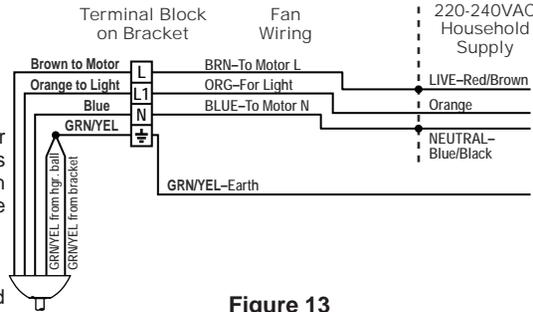

Figure 13
1. Wire the Fan (Figure 13):
- Make wiring connections to terminal block as shown in Figure 13.